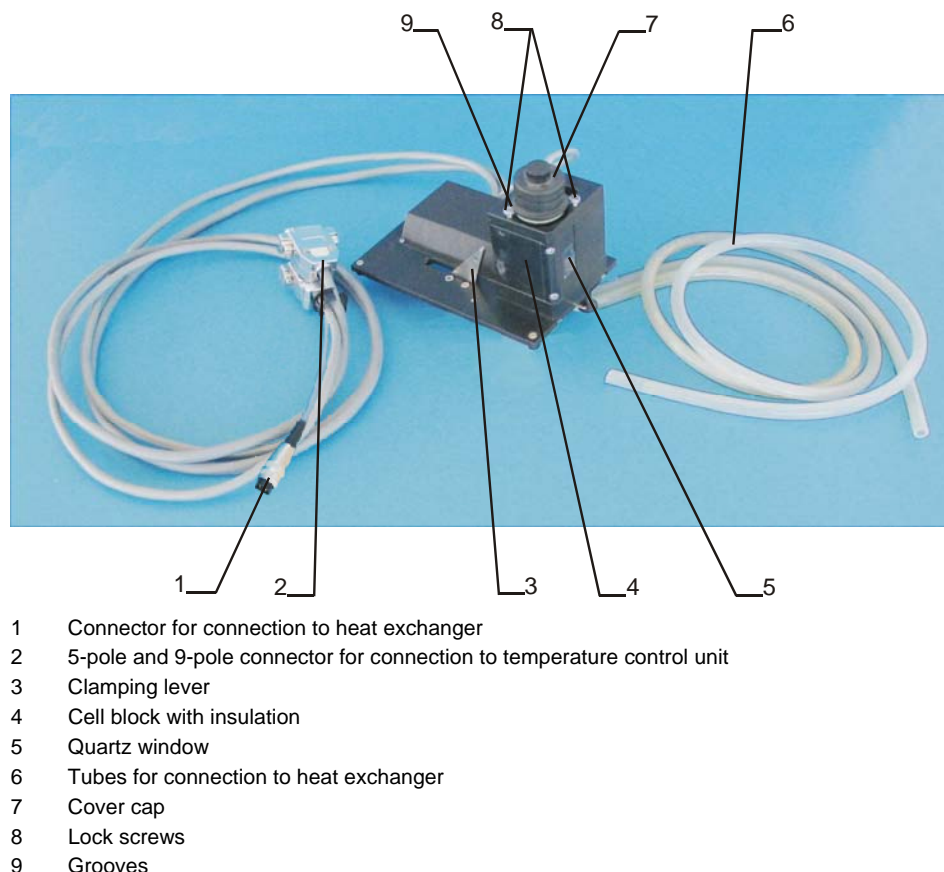

Fig. 13-6 Peltier temperature-controlled cell holder with heat exchanger
1. Turn the cover cap (Fig. 13-6 / 7) until the opposite grooves of the cover cap (Fig. 13-6 / 9) are in line with the lock screws (Fig. 13-6 / 8).